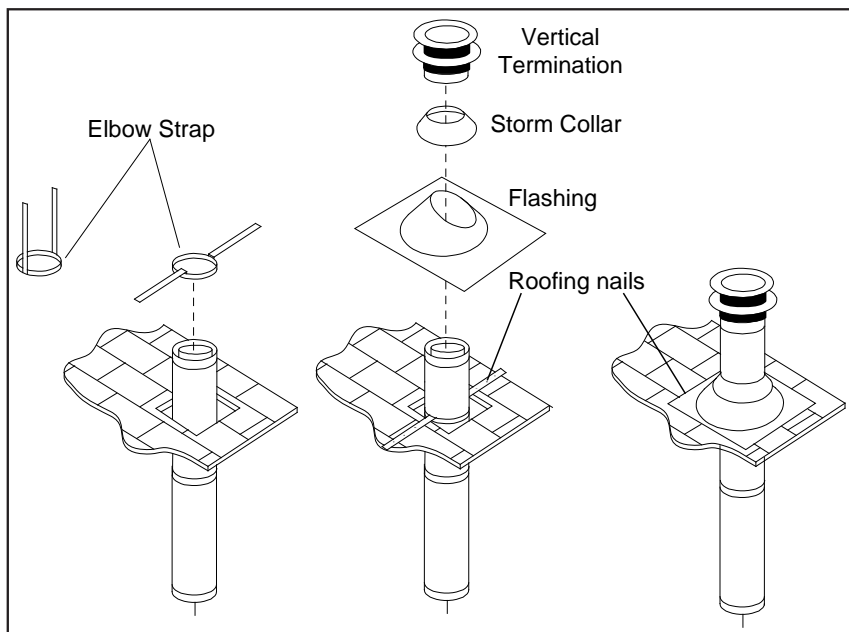

Figure 62: Vertical Vent Termination
- Step 6.** Once the pipe sections have been joined, and run up through the hole in the roof, slip an elbow strap over the exposed sections, bend the support straps outwards, and push the elbow strap down to the roof level, as shown in Figure 62. Tighten the clamp around the pipe section. Use a level to make sure the pipe is truly vertical. With roofing nails, secure the support straps to the roof. Seal the nails holes heads with non-hardening mastic. Trim the excess length of the support straps that extend out beyond the edge of the flashing.
- Step 9.** Slip the storm collar over the pipe, and push it down to the top of the roof flashing as shown in Figure 62. Use the non-hardening sealant around the joint between the pipe and the storm collar.